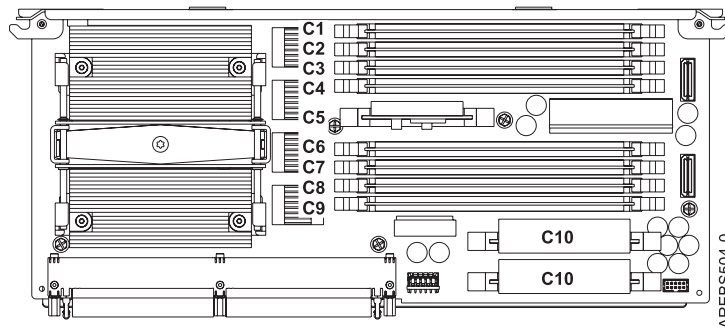

Figure 26. Memory module slot locations in the processor assembly
9. Determine the slots in which the memory modules will be placed. Each system processor assembly has eight memory module slots. See Table 6 on page 39 to ensure that memory modules are balanced on each processor assembly. The memory modules should be plugged into the slots shown in the table. For the memory module slot locations in the system processor assembly, see Figure 26 on page 40.